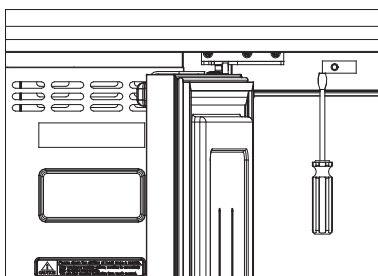

Fig 9-36
4. Lift up the corner of the switch using appropriate tools. (Fig 9-36)